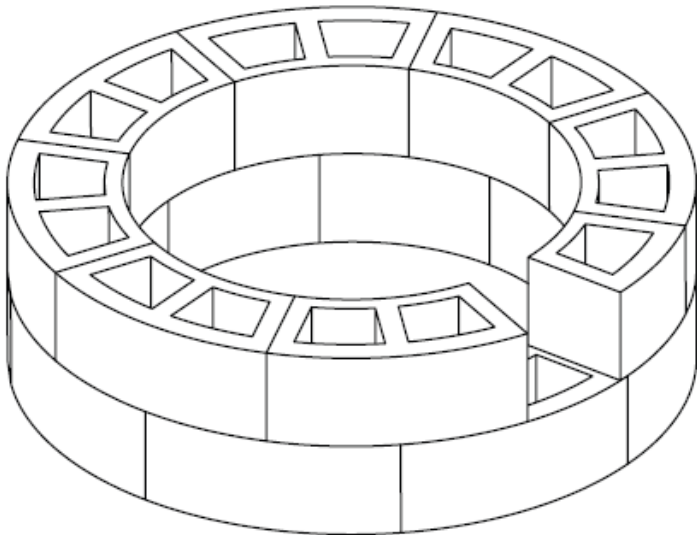

Figure 9 - Top Layer (MFR16-48 Shown)
4. When starting the top layer, stagger blocks to the layer below. Use 7 full blocks and one half block to build the top layer (see Figure 9). After laying out all blocks, using a level, verify all the blocks are level. Shim if necessary.